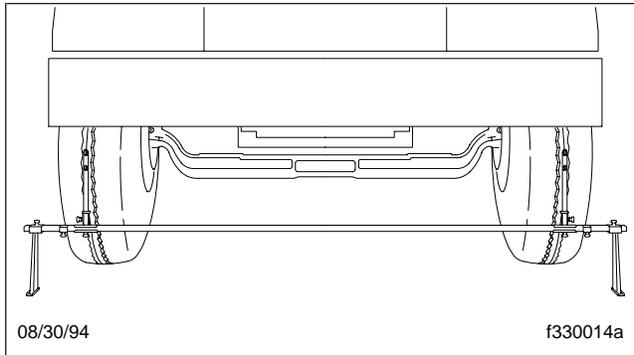
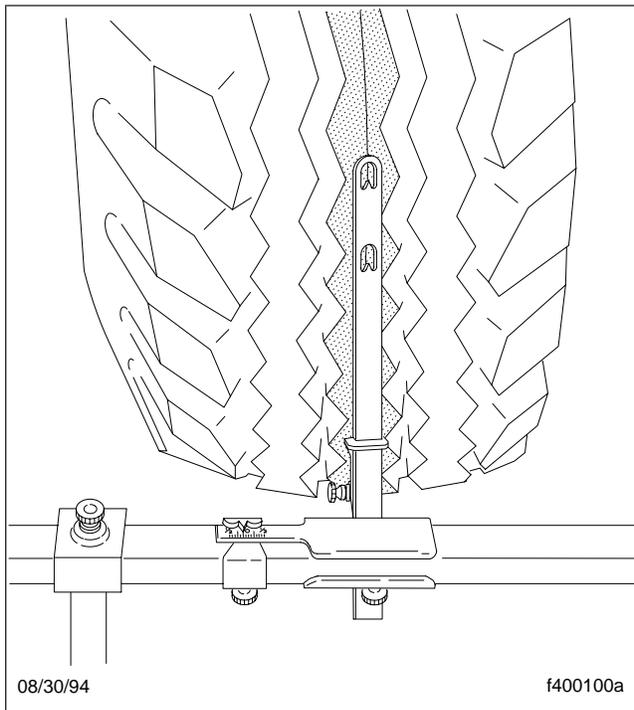

Fig. 4, Trammel Bar Positioning
Fig. 5, Setting the Trammel Bar Pointers
7. Move the trammel bar to the front of the tires (Fig. 4), and adjust the scale end so that the pointers line up with the scribe lines. See Fig. 5.